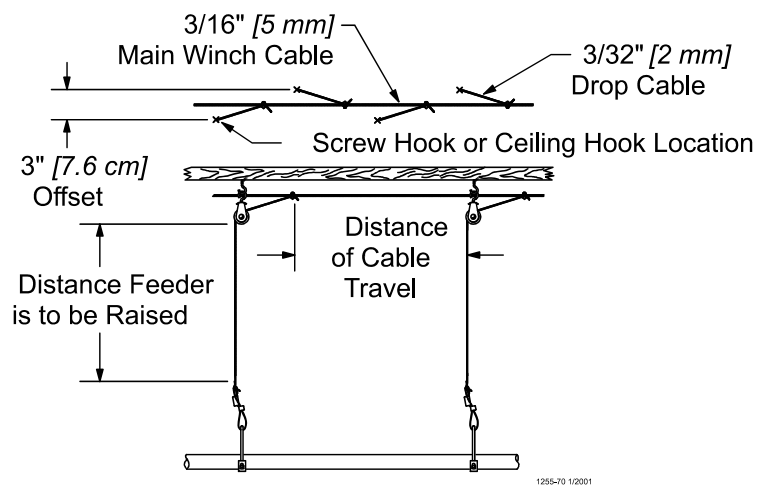

Figure 13. Drop Line Off Set Detail
2. If the distance raised is greater than the distance between the drop spacings, offset the hooks 3" [7.6 cm] to each side of the line to prevent the cable clamps from catching the pulleys, **see figure 13.**